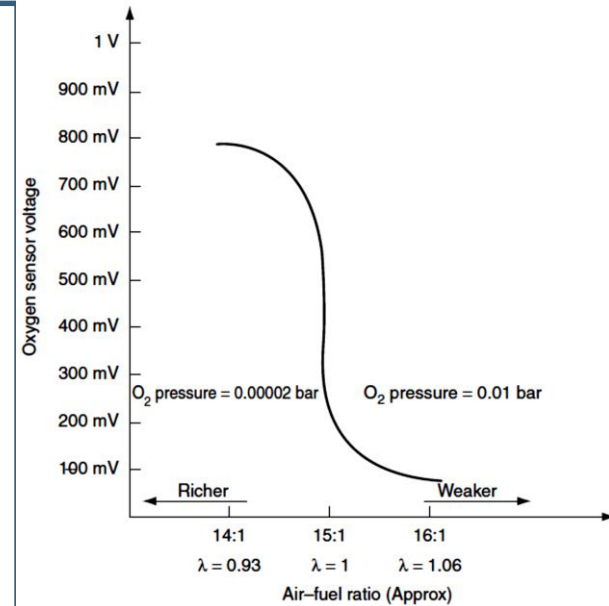

Fig. 5.29 Change in sensor voltage as air–fuel ratio changes
- When the air–fuel ratio changes from slightly rich, say 14:1 $\lambda = 0.93$ to slightly weak, 16:1 $\lambda = 1.06$, there is a marked change in the oxygen partial pressure of the exhaust gas and this leads to a step change in the EGO sensor voltage because the ceramic electrolyte (zirconia) is very sensitive to oxygen levels, as shown in Fig. 5.29.